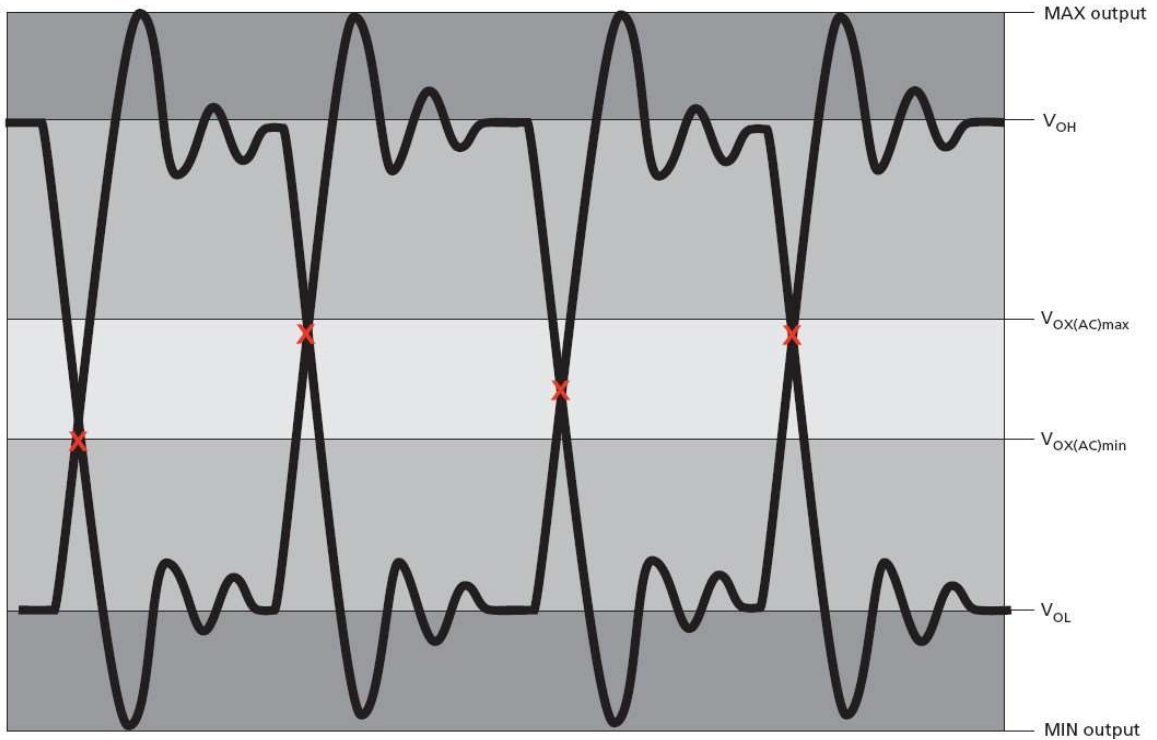

Figure 4-17: Differential Output Signal
6. See Figure 4-17 for an example of a differential output signal.
3. See Figure 4-17 for an example of a differential output signal.